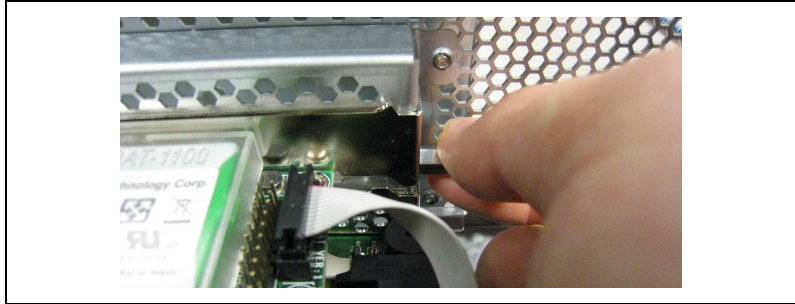

Figure 7. Hand-Tightening the Retention Fastener
- Secure the battery pack bracket by hand-tightening the retention fastener onto the top of the bracket, as shown in Figure 7.